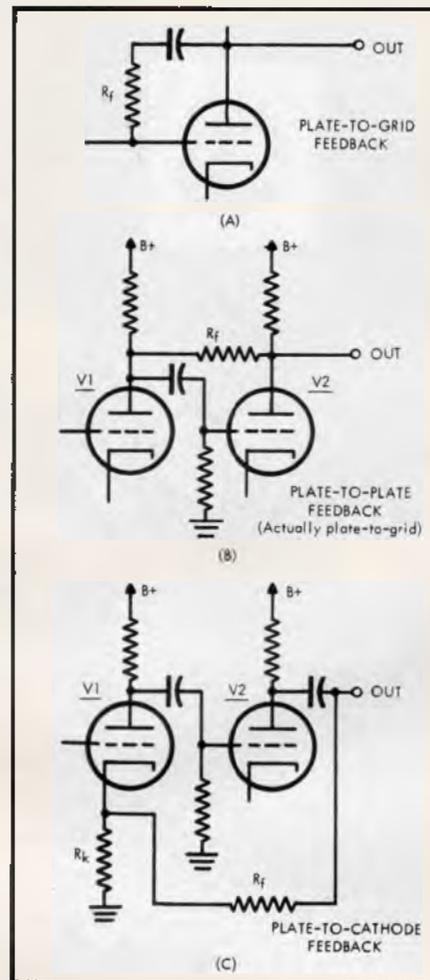

Fig. 14. Popular forms of negative voltage feedback.
(A) in Fig. 14 shows one of the simplest forms of voltage feedback, where part of the signal at the plate of a tube is fed back to its own grid. Inasmuch as the signal voltage at the plate of a tube is 180 deg. out of phase with that at the grid, this produces partial cancellation. What is sometimes called plate-to-plate feedback is shown at (B), although actually it is quite the same thing as at (A), namely plate-to-grid. In (B) feedback is applied from the plate of  $V_2$  to its own grid through the coupling capacitor C; this saves an extra d.c. blocking capacitor, which would be required if the signal at the plate of  $V_1$  were fed directly to the grid of that tube.
(C) in Fig. 14. The feedback resistor  $R_f$  and cathode resistor  $R_k$  form a voltage divider, so that the percentage of output signal fed back is  $R_k / (R_k + R_f)$ . Assume that gain between the input to  $V_1$  and output of  $V_2$  is 900 and that  $R_f$  and  $R_k$  are proportioned so that 1 per cent of the output of  $V_2$  is fed back to the cathode of  $V_1$ . Then  $A' = 900 / (1 + 900 \times .01) = 900 / (1 + 9) = 90$ . If we merely desired to know the "feedback factor," that is, the ratio between gain without feedback and with feedback, we would simply calculate:  $F = 1 + AB = 1 + 900 \times .01 = 10 = 20$  db. In brief, there is 20 db loss of gain due to feedback under the conditions assumed for (C) in Fig. 14.
The most important manner in which negative voltage feedback maintains frequency response is by what may be called self-regulating action. Referring to (C) of Fig. 14, assume that for some reason the gain of  $V_1$  or  $V_2$  declines at frequency  $f$ . Consequently there is less output at the plate of  $V_2$ , which in turn results in less feedback at  $f$ , so that there is a compensating rise in gain at this particular frequency. The improvement in response is proportional to the feedback factor. For example, should a 3-db drop occur at 10,000 cps in the absence of feedback, then 20-db feedback (10:1 ratio) would result in only 0.3 db decline at this frequency.
Assume that because of tube non-linearity a frequency appears at the output of  $V_2$  in (C) of Fig. 14 which was not fed into the input of  $V_1$ . Negative feedback applies this extraneous signal to the cathode of  $V_1$ , but in such phase as to partly cancel the unwanted frequency. For example, assume that an extraneous signal generated by  $V_1$  is negative-going at the plate of that tube. The corresponding signal at the plate of  $V_2$  and therefore the feedback voltage at the cathode of  $V_1$  is positive-going. This causes the grid of  $V_1$  to go negative with respect to cathode, which makes the plate of  $V_1$  positive—opposite in phase to the extraneous voltage there and resulting in partial cancellation.